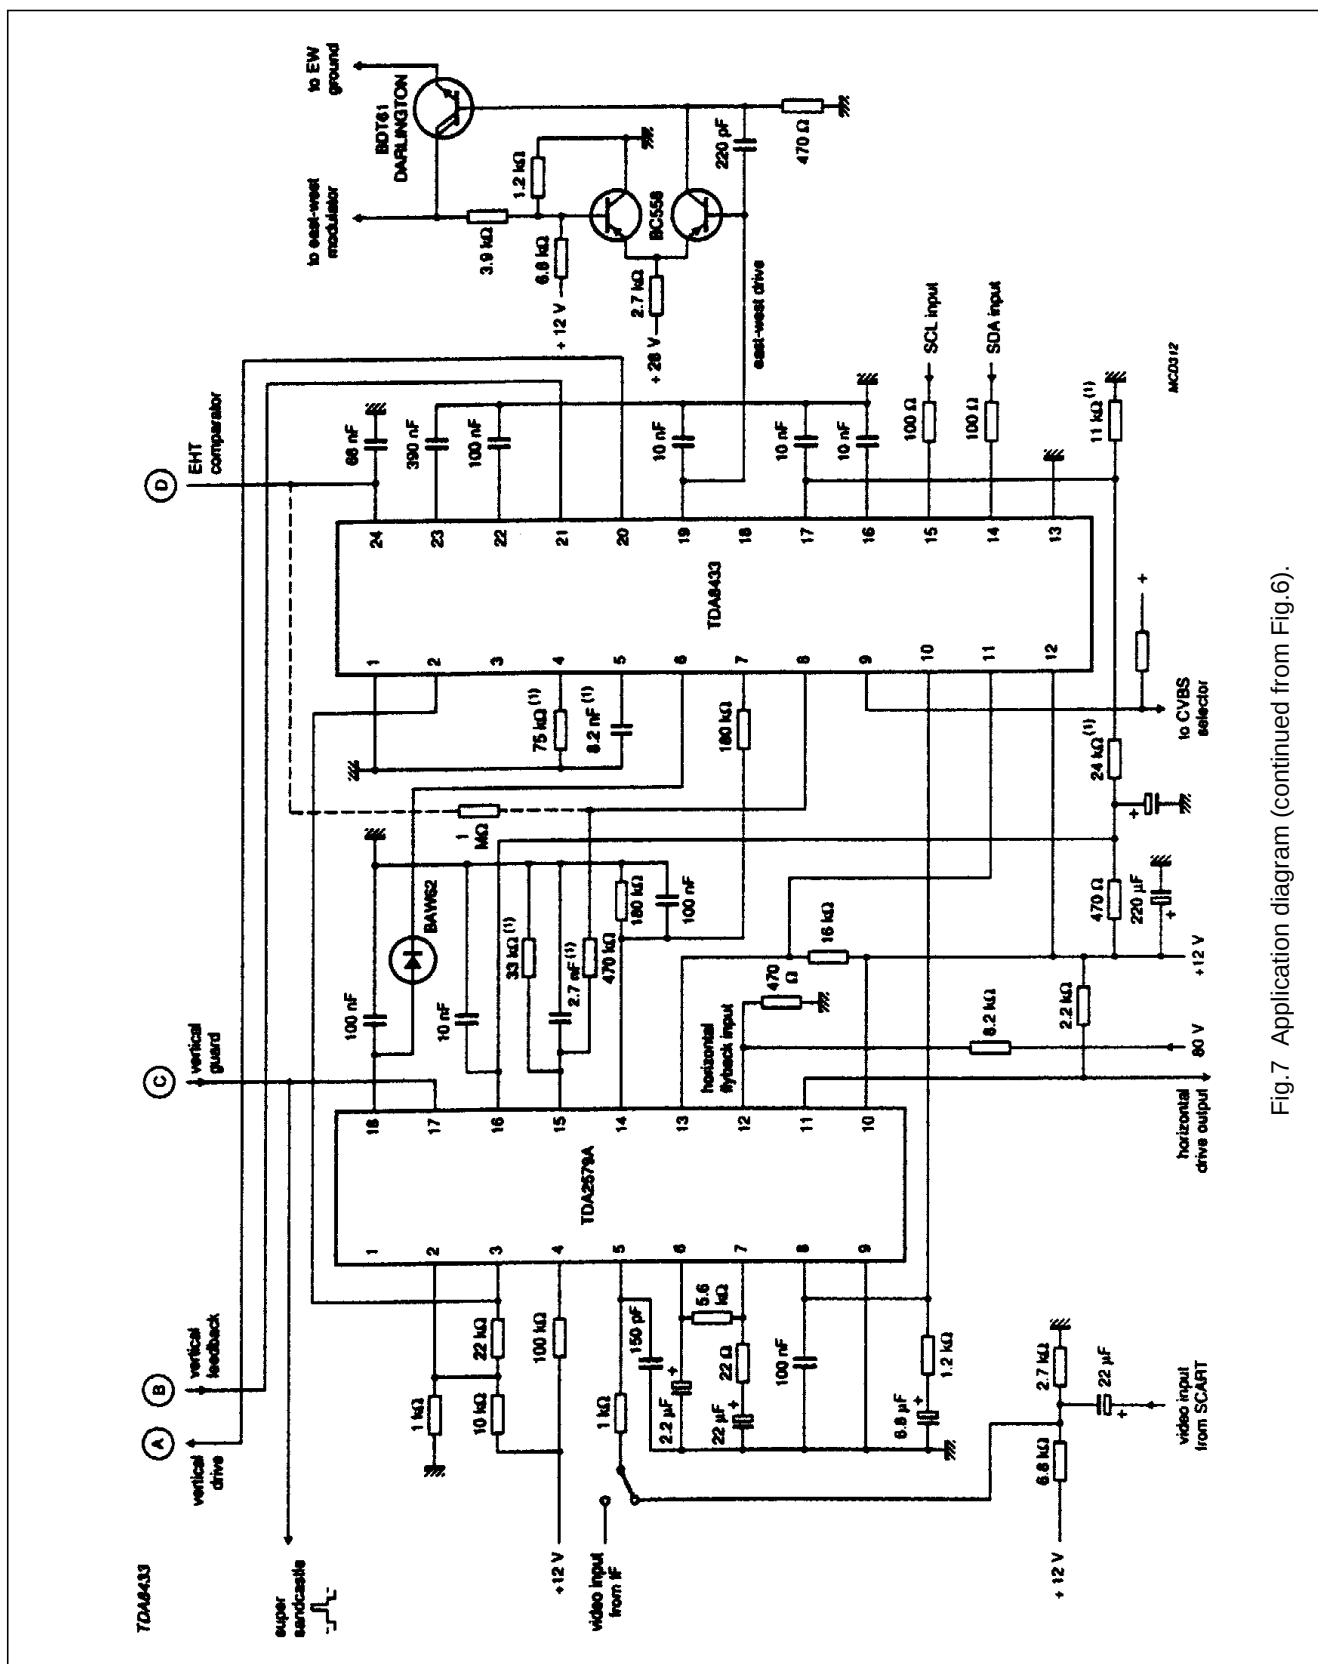

Fig. 7 Application diagram (continued from Fig. 6).
The formulae from which the typical vertical drive and typical E-W drive waveforms are generated are given in the following sub-paragraphs. For this purpose a typical application diagram for the vertical drive stage is assumed to be as illustrated in Fig.7. Pin 20 is the vertical drive output which drives an inverting power amplifier. The feedback network, R1 to R4 and C1 and C2, has two functions;
the peak-to-peak value of the linear sawtooth (see Fig.7).
The range for the V-S correction (SA^2) is defined as a percentage of the undistorted peak-to-peak sawtooth voltage (see Fig.7). The actual S-correction component (SA^2) is dependent on the picture height setting where:
- The maximum possible trapezium output is 1.6 V (typical - see Fig.7). This is the case where: $a = 0.5$, $c = 0$ and $p = 1$ i.e. no corner correction and the maximum parabola correction at nominal picture height settings.